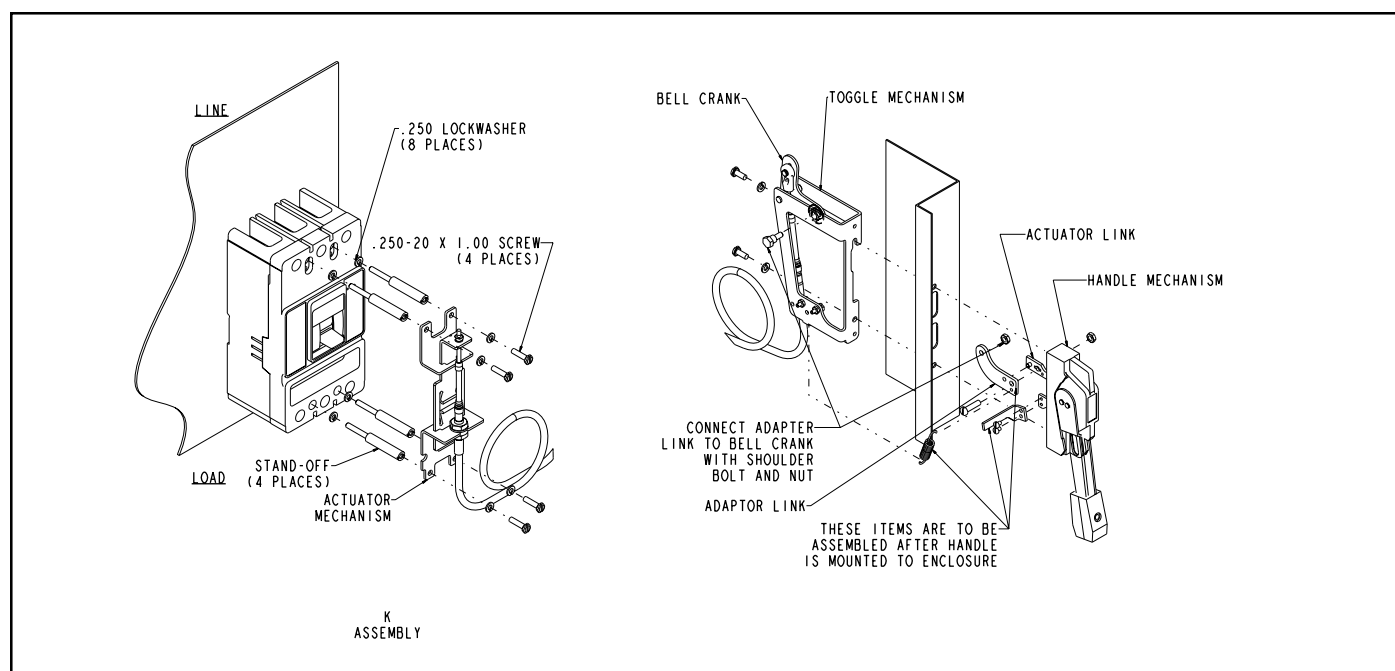

Fig. 1-1 Securing Actuator Mechanism to Breaker and Toggle Mechanism and Handle to Flange
1. Install breaker with the four standoffs and lockwashers. (See Fig. 1-1).